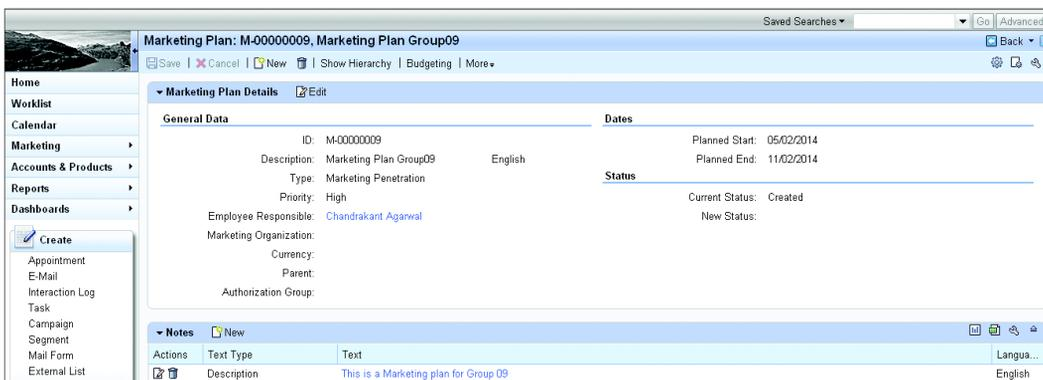

Figure 5.1 Marketing Plan
2. Enter the **DESCRIPTION**, **TYPE**, **PRIORITY**, **DATES (PLANNED START AND PLANNED END)**, and **MARKETING ORGANIZATION** (if applicable), as shown in Figure 5.1. You can add other information such as **TEXT**, **ATTACHMENT**, and **PARTIES INVOLVED**, or you can create another marketing element, if required.